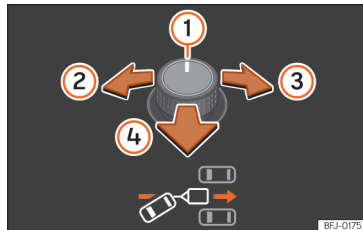
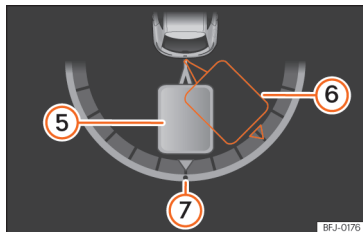

Fig. 172 Outside rearview mirror rotary control: adjust the trailer angle.
Fig. 173 Instrument cluster display: engage reverse.
Key to the >>> Fig. 172, >>> Fig. 173:
- Tilt the rotary control until the desired direction is reached >>> Fig. 172. A representation of the tow vehicle and trailer set is shown on the instrument cluster screen for guidance purposes >>> Fig. 173.